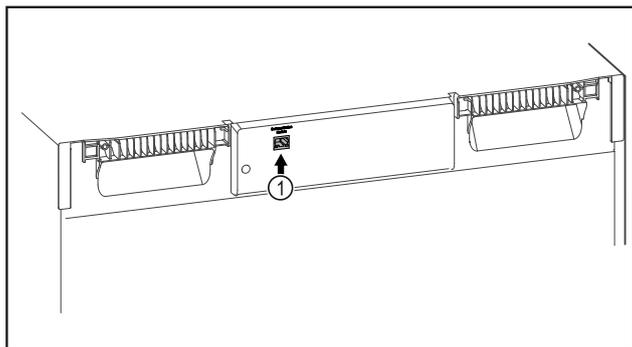

Fig. 123
- SmartModule Fig. 123 (1) is in use.